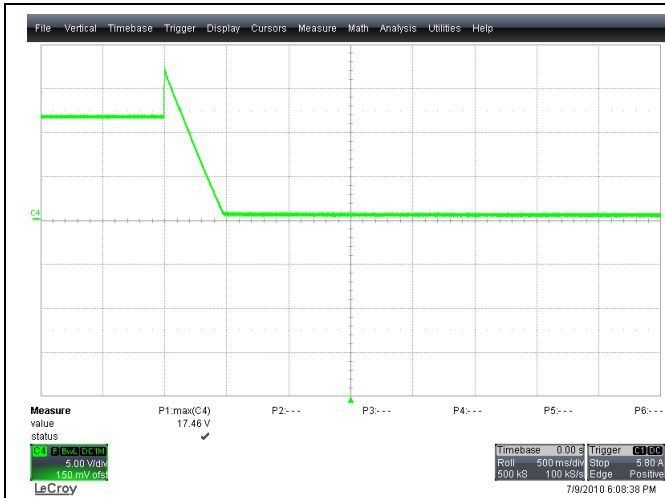
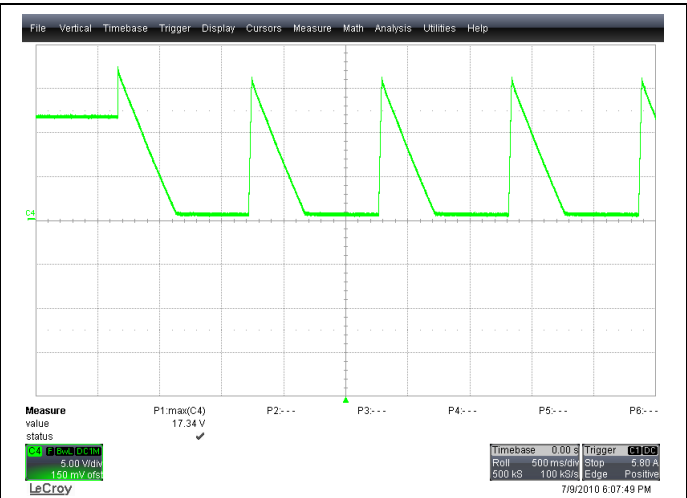

Figure 41 - Latching VS3 Over Voltage Protection (set to 17.5V)
Figure 42 - Hysteretic VS3 Over Voltage Protection (set to 17V)
B. **Over Voltage Protection (OVP):** Figure 41 and Figure 42 show latching and hysteretic OVP respectively.